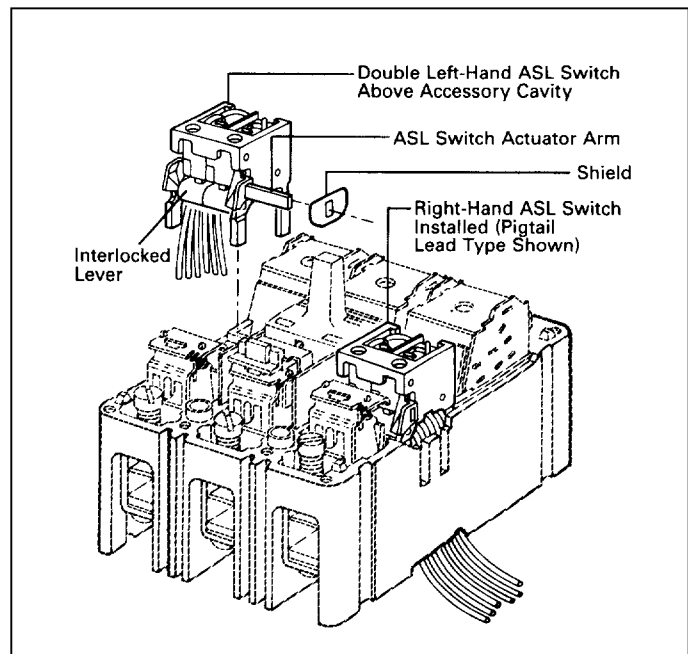

Fig. 2-4. Double Alarm (Signal)/Lockout Switch Installation Positions
- a. Put shield on ASL switch actuator arm. (See Fig. 2-4.)